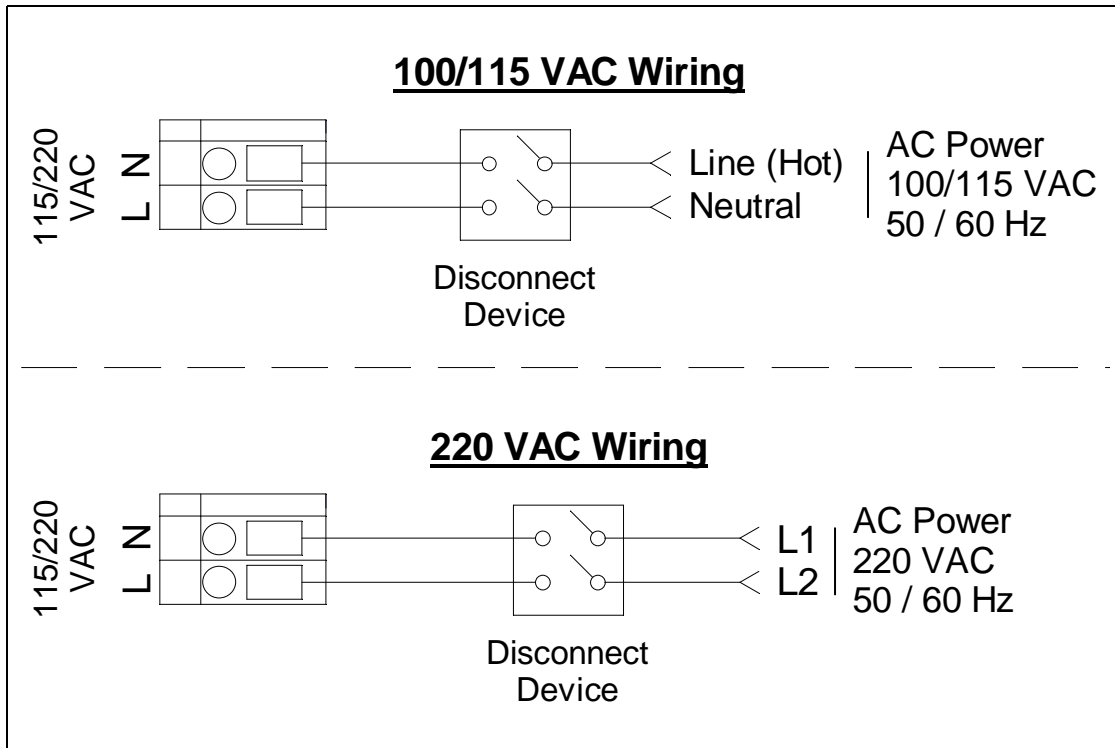

Figure 11: AC Power Wiring
6. Connect the AC wires to the 115/220 VAC Input Terminal Strip as shown in Figure 11 below.